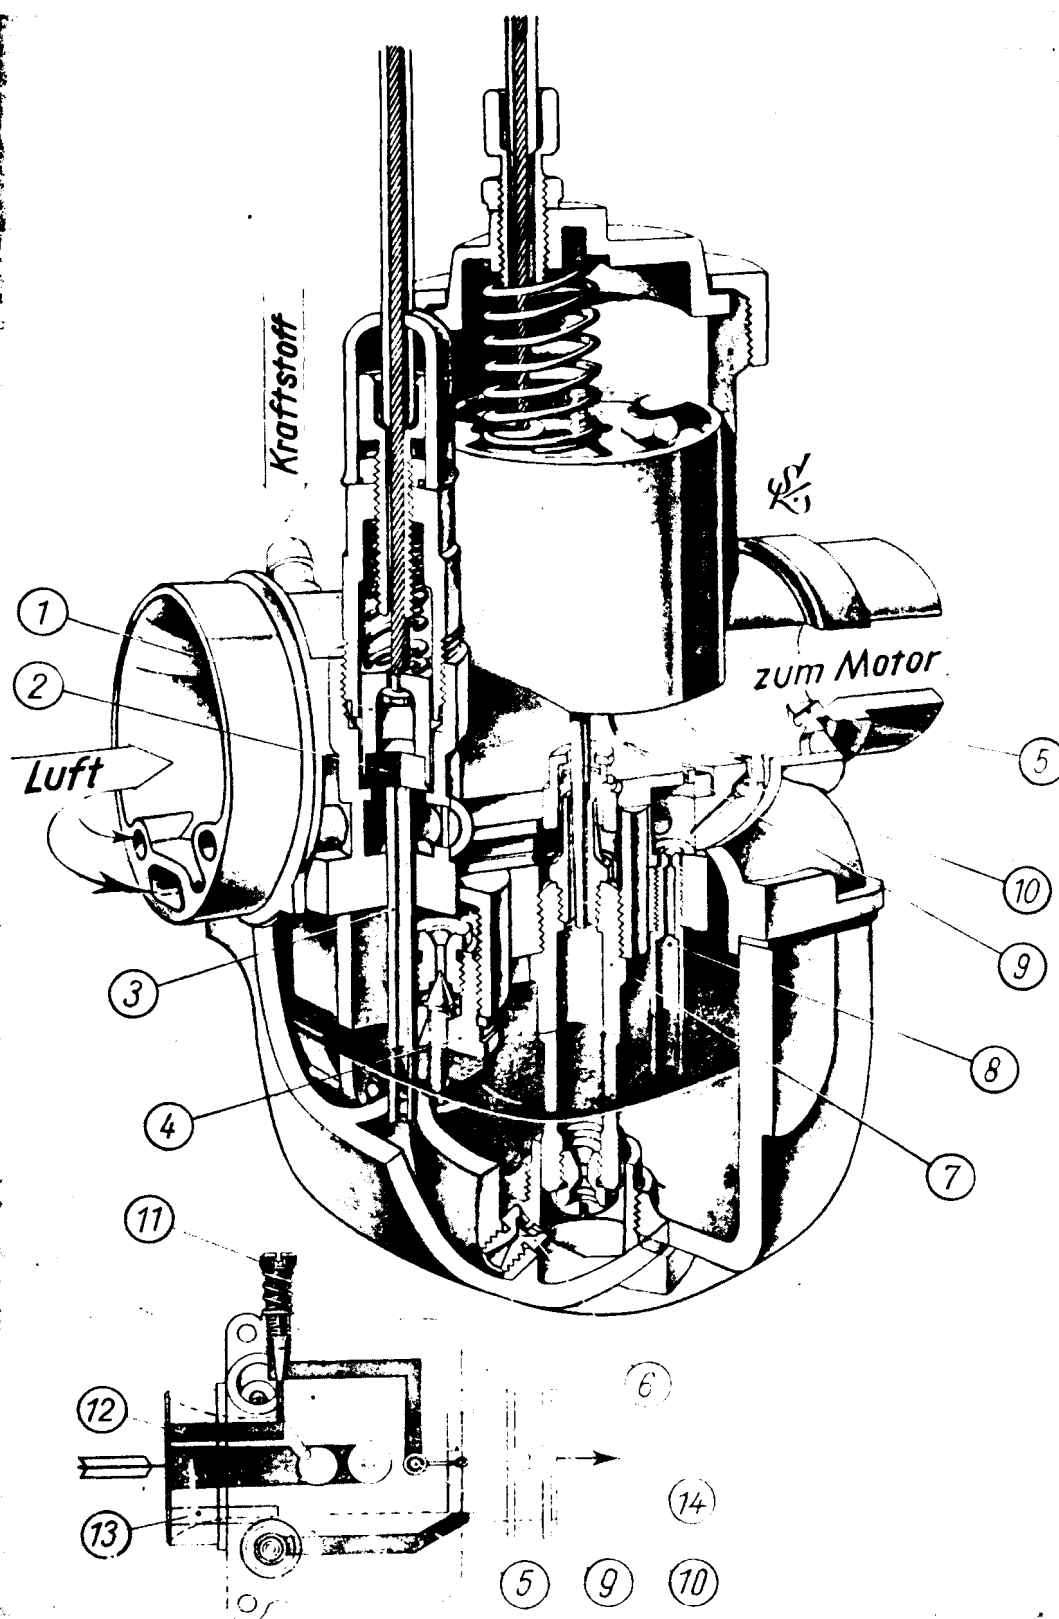

Fig. 122. Starter carburettor, sectional view
When starting from cold, the starter piston is lifted by drawing the starter lever. The fuel in the starter-mixture delivery duct is carried off and sucked up by the engine through the starter duct (5). This duct discharges into the intake pipe behind the throttle valve (see diagrammatic representation, Fig. 122).
The diagrammatic representation shows the arrangement of ducts in a horizontal sectional view (Fig. 122).
The fuel-air mixture for the slow-running range of the carburettor is prepared in the slow-running device comprising the slow-running air screw (11) (see diagrammatic representation in Fig. 122) for dosing the air for slow running and the slow-running fuel jet (8). As in the partial load and full load ranges, in this range, too, the engine must get fuel and air in the correct ratio, i.e. in an ignitable ratio. An excessive supply of air in the slow-running range will result in erratic running of the engine — when suddenly accelerating, the engine will stall.
When the slow-running air screw is almost closed, the engine tends to cycle as a four-stroke engine — a layman then thinks the connecting-rod is defective. Besides good startability, proper transition also depends on the correct setting of this screw. When opening the throttle valve, the transition bore (9) (Fig. 122) becomes effective additionally, but this also depends on the position of the air screw. To ensure smooth running and good road performance, particular attention should be paid to the adjustment of the slow-running device.